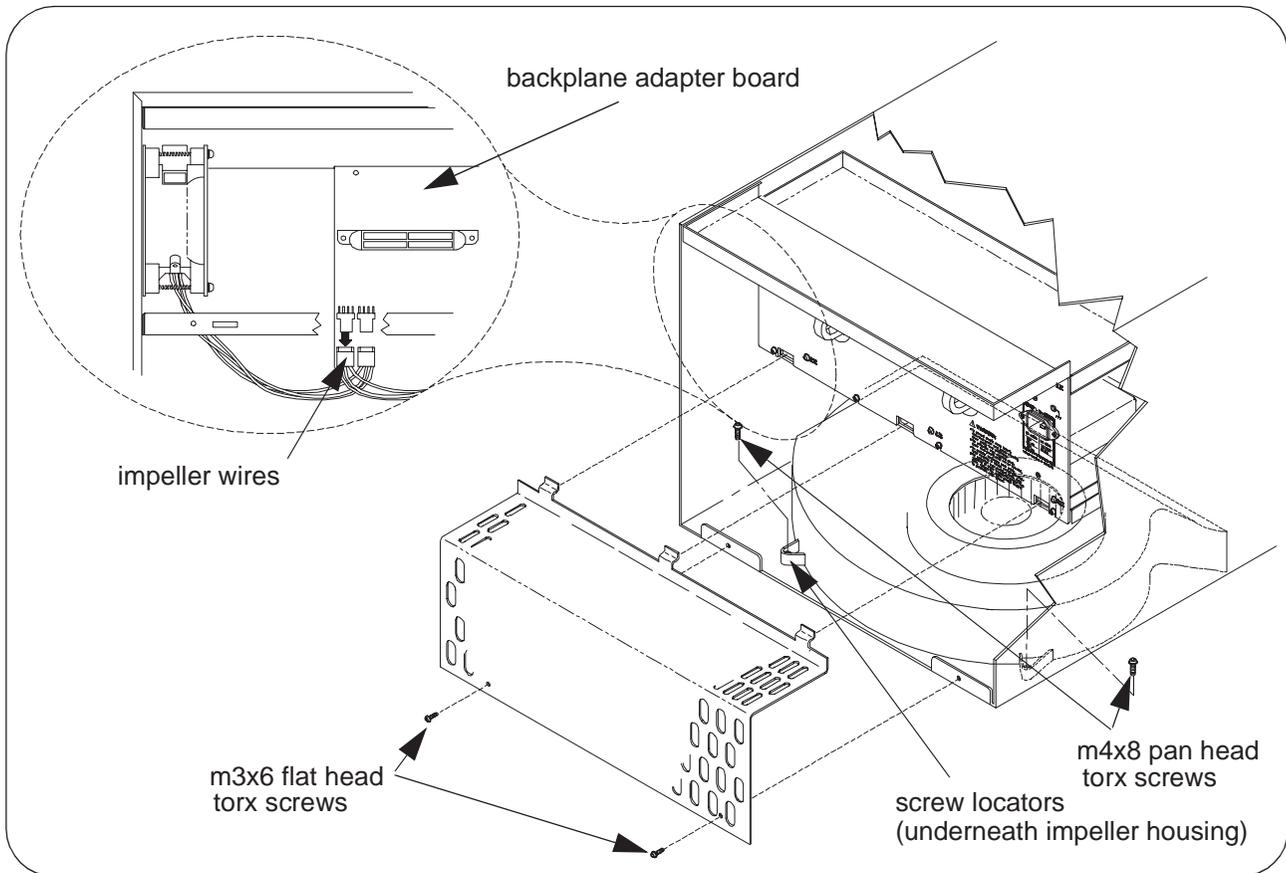

Figure 3-4. Removing / Installing the Impeller.
3. Disconnect the impeller wires from the backplane adapter board by gently pulling down on the wire housing (Figure 3-4). Note the position of the housing for re-installation.
5. Lift the impeller off the screw locators and gently pull the impeller out from the mainframe (Figure 3-4).